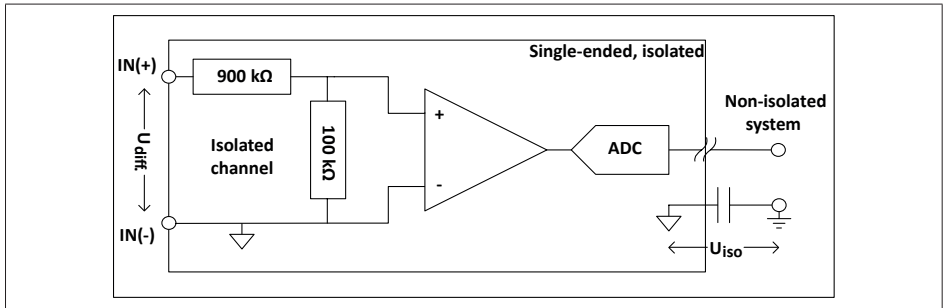

Fig. 13.63 Single-ended isolated input channel
- The isolated ground is externally accessible, as shown in Fig. 13.63.